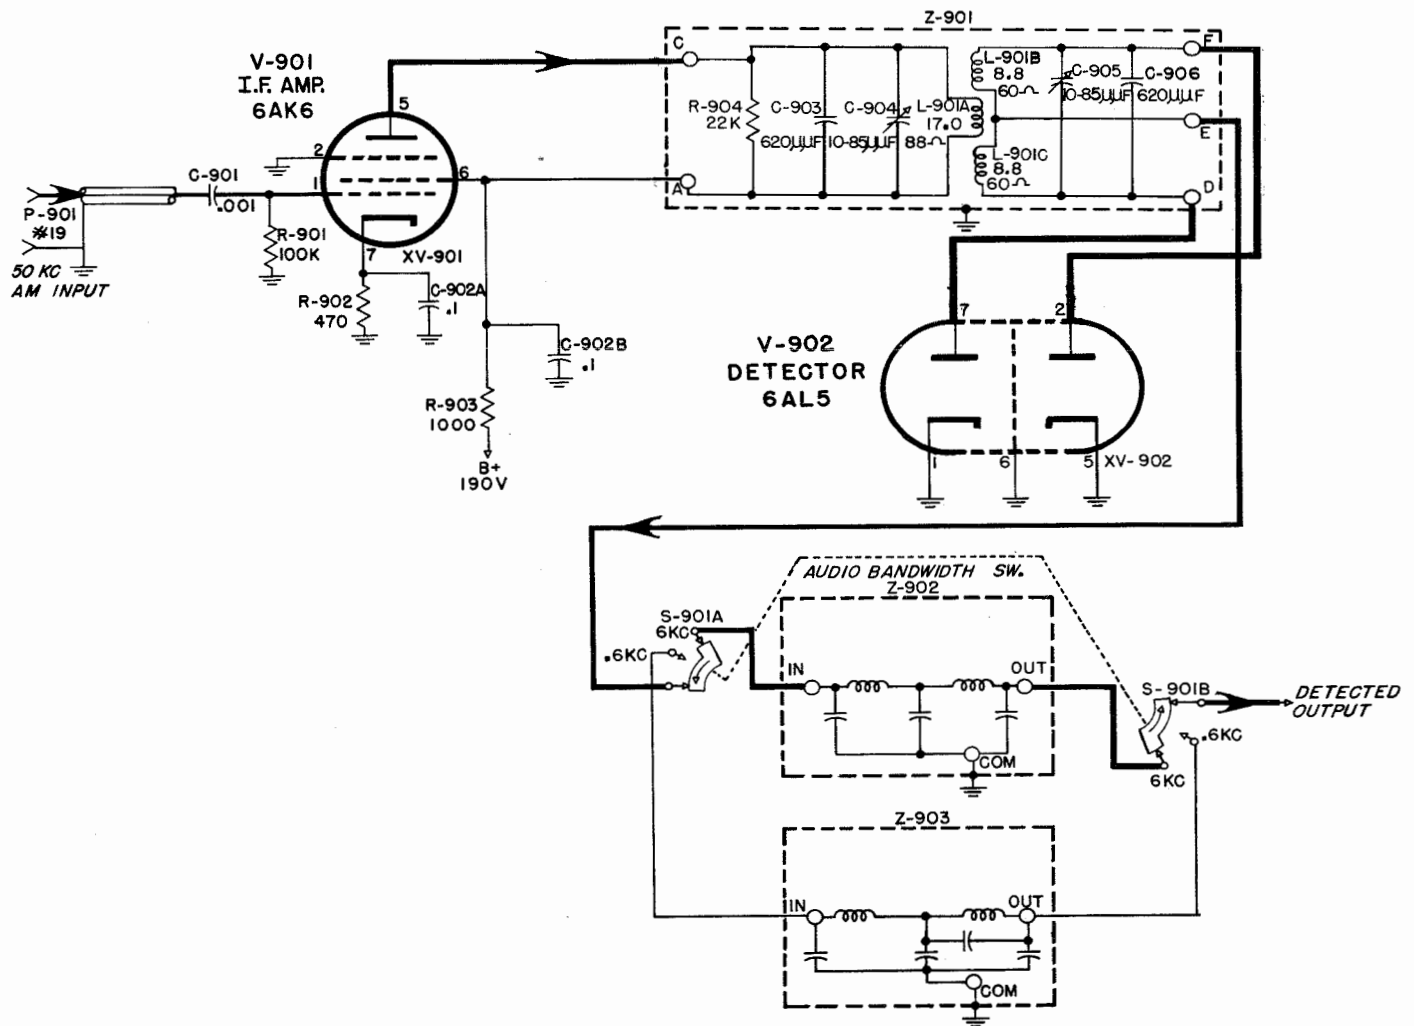

Figure 2-29. I.F. Amplifier V-901, Detector V-902 and Audio Filter Stages, Simplified Schematic Diagram
(3) I.F. AMPLIFIER V-901, DETECTOR V-902 AND AUDIO FILTER CIRCUIT DETAILS (Amplifier-Detector AM-440/FRR-24). (See Figure 2-29).—The 50-kilocycle cathode follower output of the I.F. amplifiers is fed into Amplifier-Detector AM-440/FRR-24 through input connector J-907. This signal input is capacitively coupled through capacitor C-901 and appears across grid load resistor R-901 of the I.F. amplifier stage. This single 50-kilocycle I.F. amplifier comprised of V-901, a type 6AK6 pentode, and Z-901